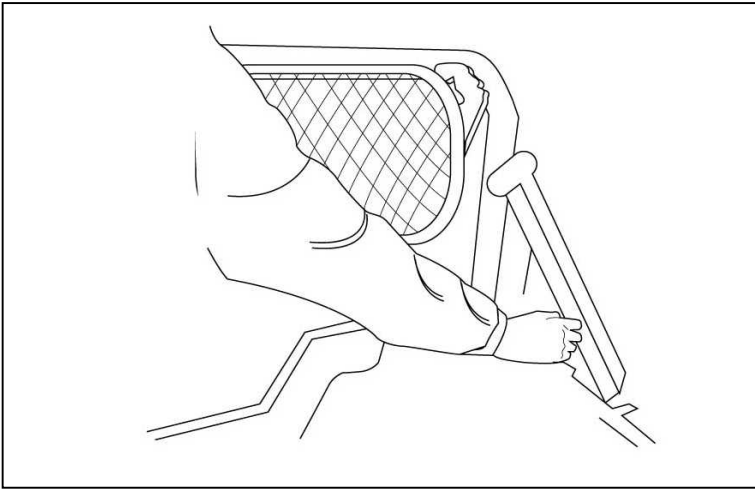

Figure 3-3-7: Lowering the Side Superstructures
- (4) pull on the wire cord releasing latch of the rear support brace and disconnect the brace from the side bar (see Figure 3-3-7);
- (5) pull the side bar outward and down until it rests against the car body; and